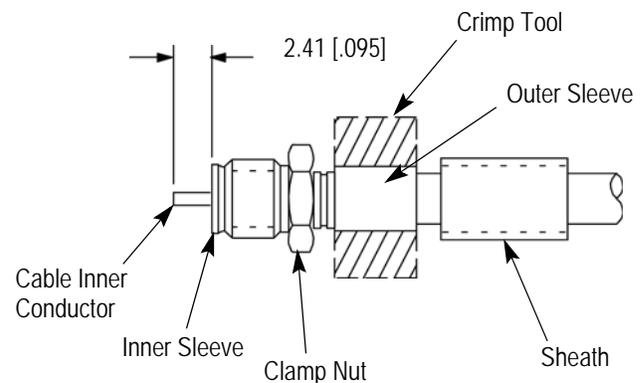

Figure 4
3.2. Crimping Cable to Inner Sleeve (Figure 4)